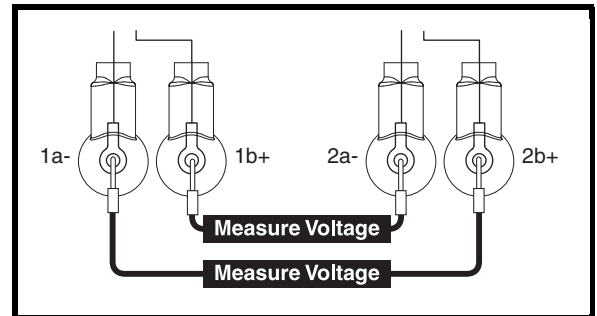

Figure 8. Connectors 1a and 2b
7. Measure voltage across connector 1a (-) and connector 2b (+). See figure 8. {If your multimeter indicates 0VDC, then measure voltage across connector 1b (+) and connector 2a (-).}